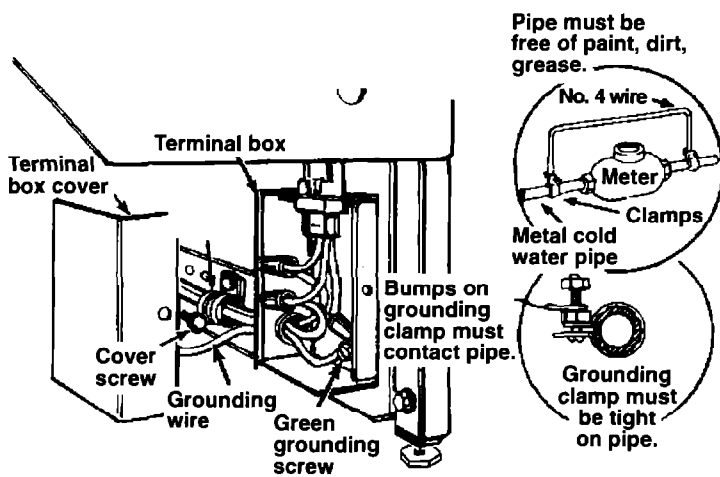

Figure 5
2. For added personal safety, use a separate grounding wire. Remove terminal box cover. Feed grounding wire through the hole in the terminal box where the power cord enters. Connect the separate grounding wire to the green, grounding screw inside the terminal box. Connect the other end of the separate grounding wire to a grounded, metal cold water pipe*. (See Figure 5.)